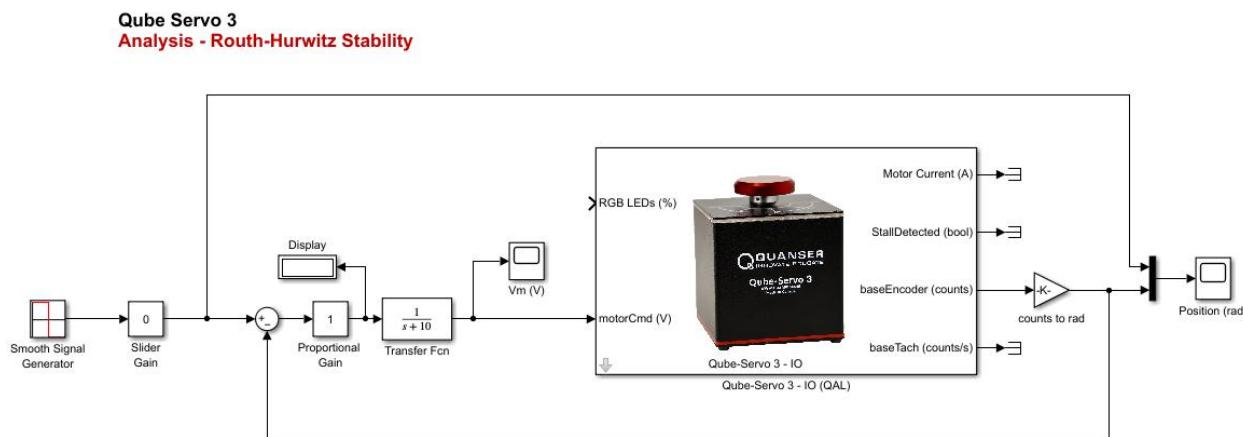

Figure 1: Simulink model used to test stability of Qube-Servo 3
Using the gains found to convert encoder counts into rads from the instrumentation labs update the qs3_routh_hurwitz.slx file to match Figure 1. Leave the disconnected gain block.
Build the Simulink model shown in Figure 1, if it has not already been provided, use a previous model as a start.
Now that the theoretical stability of the system has been calculated, these calculations can be validated on hardware. Create or open the Simulink model from Figure 1.
- Open the *qs3_routh_hurwitz* model shown in Figure 1.